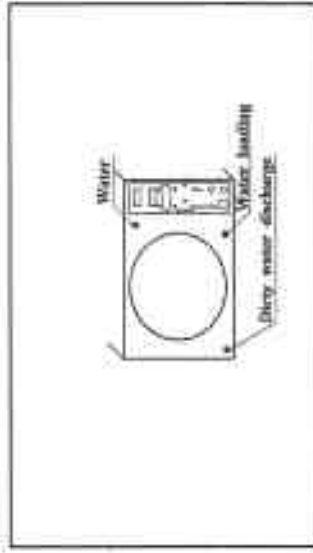

Figure 3
□ How to empty the recovery tank: the alarm A02 is visualized on the time display; this means the machine must be emptied (see fig. 3). Without this procedure the machine remains in the alarm condition and cannot be used. For a better operation of the autoclave, frequently empty the recovery tank (dirty water).